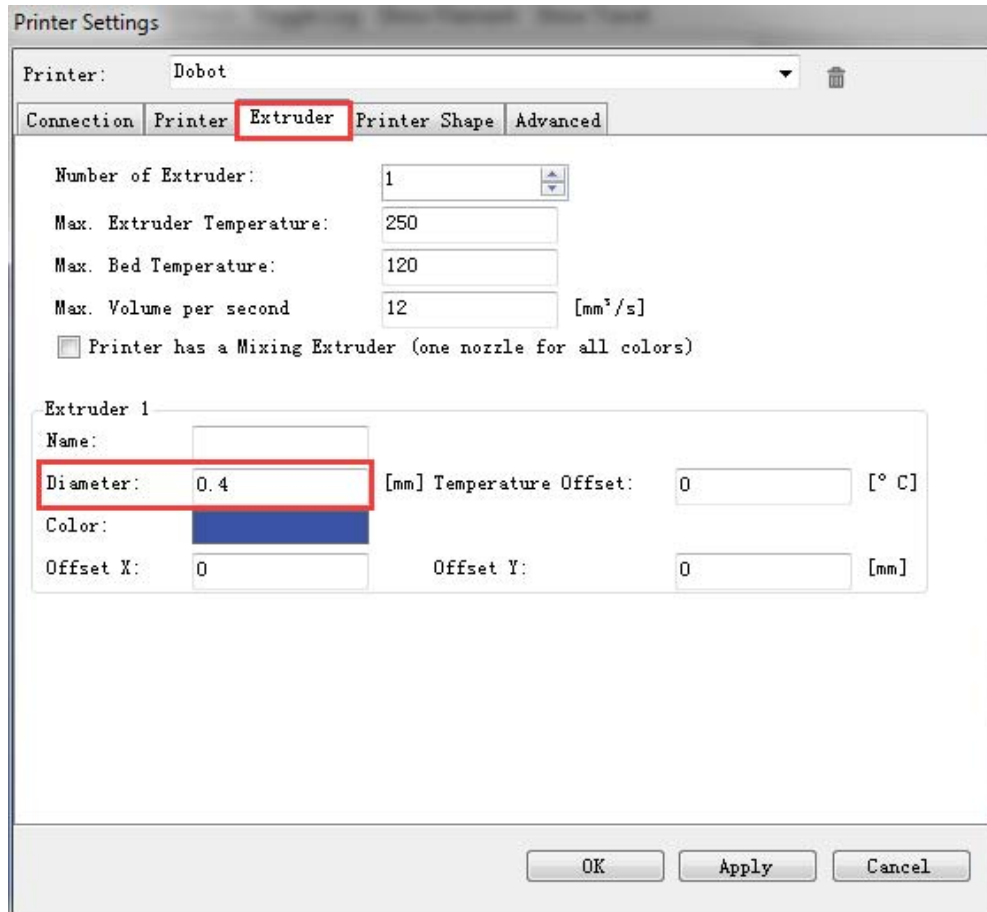

Figure 5.129 Extruder settings
- Set the corresponding parameters on the **Extruder** tab as shown in the red box of Figure 5.129, the other parameters are set by default. Then, Click **Apply**.